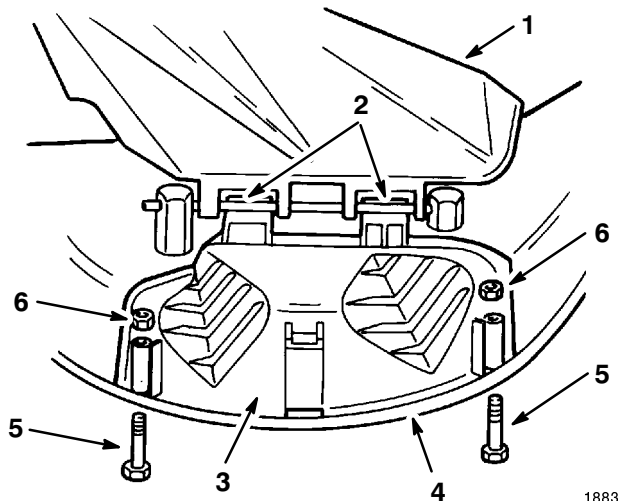

Figure 13
1. Lift the grass deflector and slide the tabs on top of the discharge cover under the grass deflector retaining rod. Rotate the discharge cover down over the opening, and onto the lower lip of the mower (Fig. 13).
2. Secure the discharge cover to the lower lip of the mower with bolts and nuts (Fig. 13).